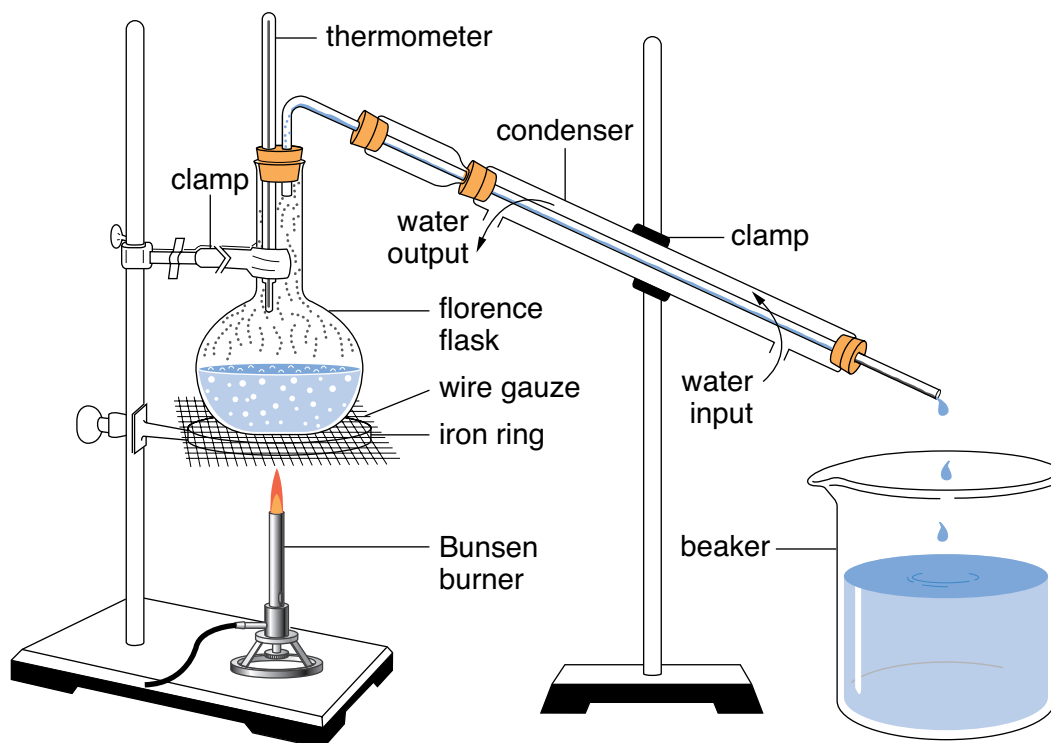

Figure 2
1. Set up the distillation apparatus as shown in Figure 2. Attach a water input hose to one valve on the condenser and attach a water output hose to the other. Place a beaker below the condenser to collect the distilled water.